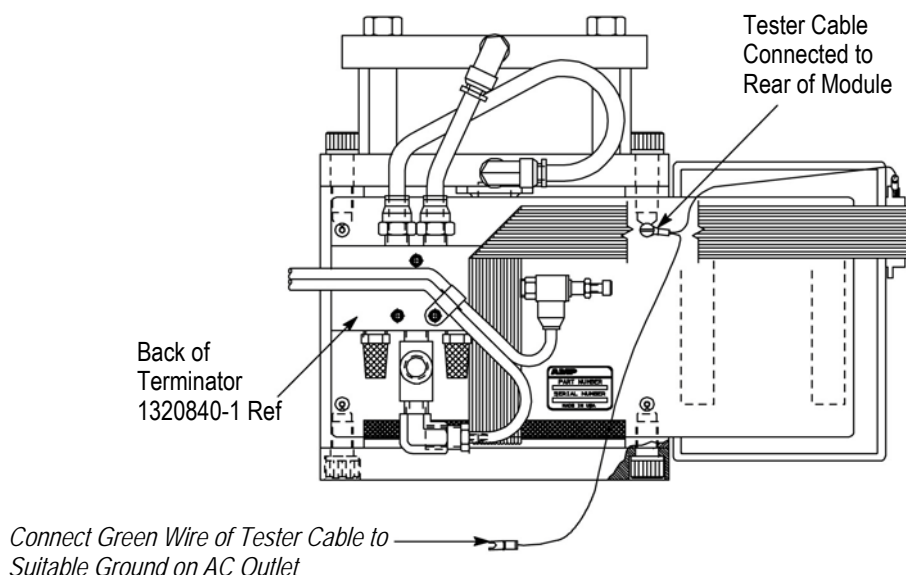

Figure 2
4. Connect the cable from the automatic circuit tester to the rear of the module, and tighten the screws to secure cable. Refer to Figure 2.
5. Check that the two single-wire terminations on the limit switch to the left of the tester cable (viewing from the rear of the module) are firmly connected to the limit switch at the top-most and bottom-most terminals (normally-closed position). Verify that the green wire of the tester cable is connected to the terminator and to a suitable ground on an AC outlet. Refer to Figure 2.